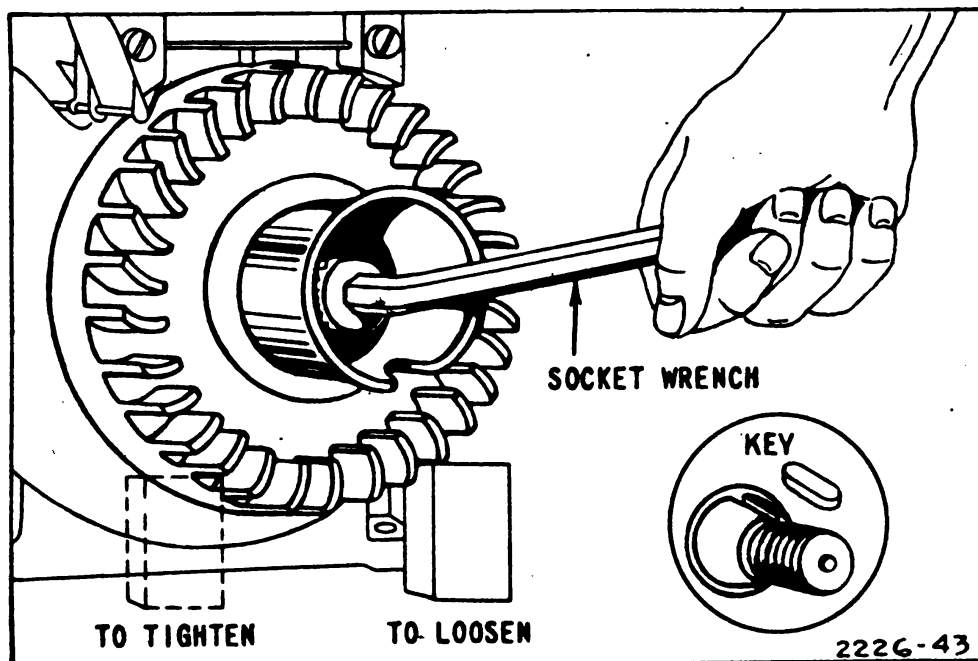

Figure 12.—Removing flywheel
b. Remove the blower housing. Bolt or clamp engine to work bench. Place a wood block under flywheel fin on right side of flywheel to hold it rigid and prevent turning as you loosen nut (fig. 12). To loosen and start nut to the *right*, tap end of wrench handle lightly with hammer. Remember that this is a left-hand thread and nut must be turned to the *right*. Tap carefully or a broken fin may result which will throw the flywheel out of balance. After the nut is removed, loosen flywheel by placing a wooden block against end of crankshaft and striking with a hammer. Pull off flywheel.